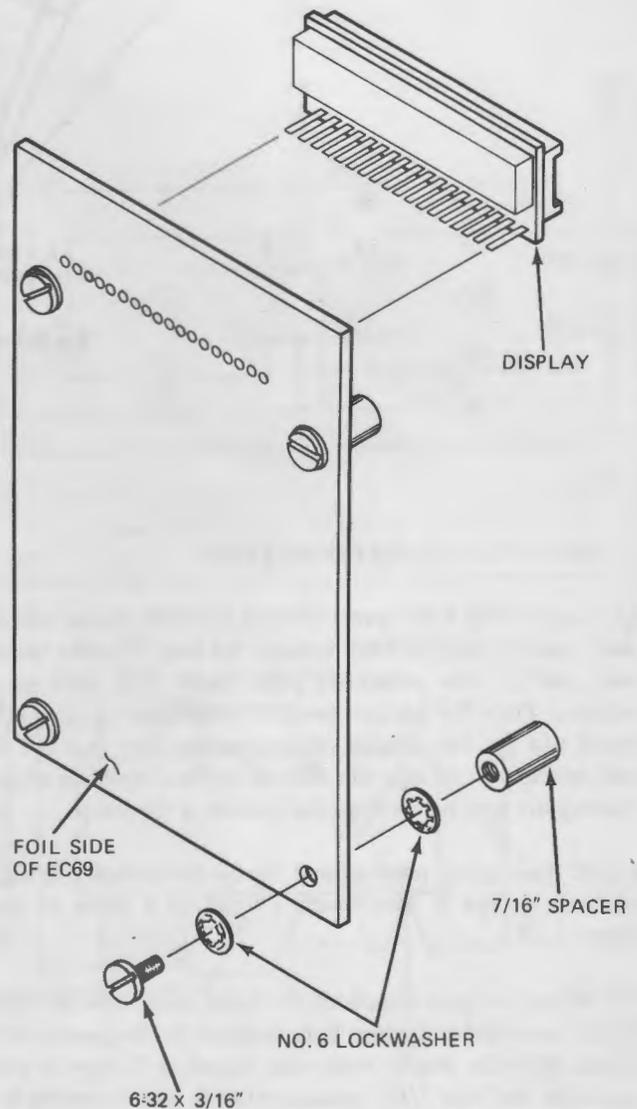

Fig. 7. Installing the display and spacers on EC69.
(7) Install these parts on the frequency counter circuit board as shown in Fig. 7, making sure that the spacers are on the component side of the circuit board. Tighten the screws fully as you hold the spacers with your pliers. Be sure that the screws and lockwashers do not make any circuit bridges between foil sections ()
(8) Temporarily install the display as shown, but do *not* attempt to solder the display connector pins to the circuit board yet. Set the assembly aside while you prepare the front panel ()